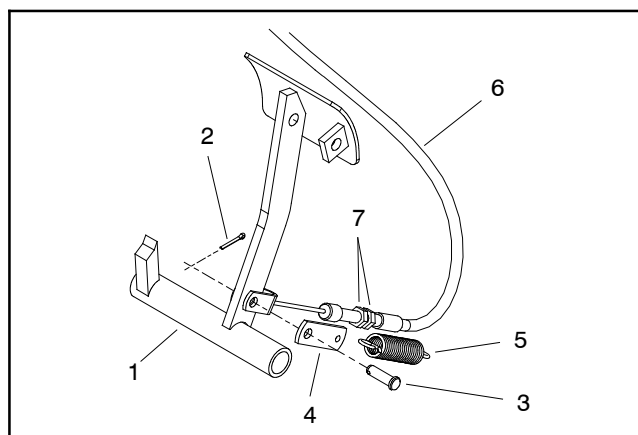
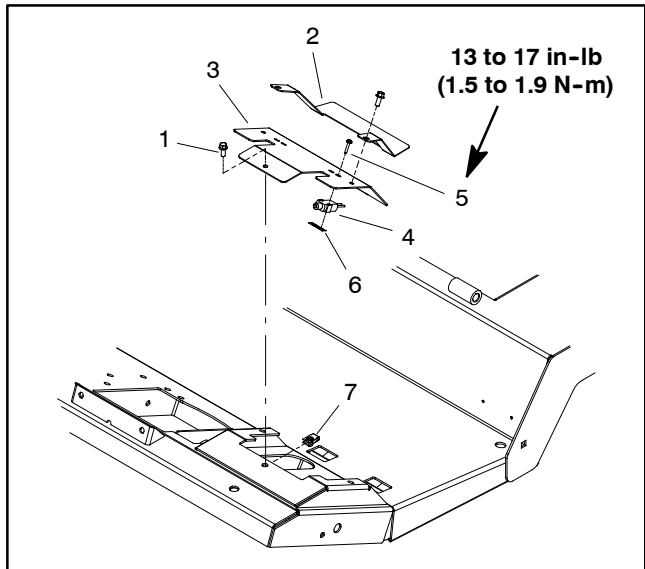

Figure 22
Figure 23
6. Disconnect both brake cables from brake pedals and operator frame (Fig. 22). Access to brake cable jam nuts can be obtained by removing adjustment cover on operator platform (Fig. 23). Position brake cables away from operator platform.